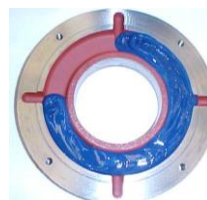

Figure 7.2: Outer bearing cap
- Fill up to  $\frac{3}{4}$  of the inner and outer bearing cap deposits with the recommended grease (Figure 7.2) and lubricate the rolling bearing with enough grease before assembling it;
When the bearing is opened, inject the new grease through the grease nipple to expel the old grease found in the grease inlet tube, and apply the new grease in the rolling bearing, to the inner and outer rings, filling  $\frac{3}{4}$  of the empty spaces, as shown in Figure 7.2. In case of double bearings (ball bearing + roller bearing), also fill  $\frac{3}{4}$  of the empty spaces between the intermediate rings; Never clean the rolling bearing with cotton-based cloths, because they leave some lint, working as solid particles.